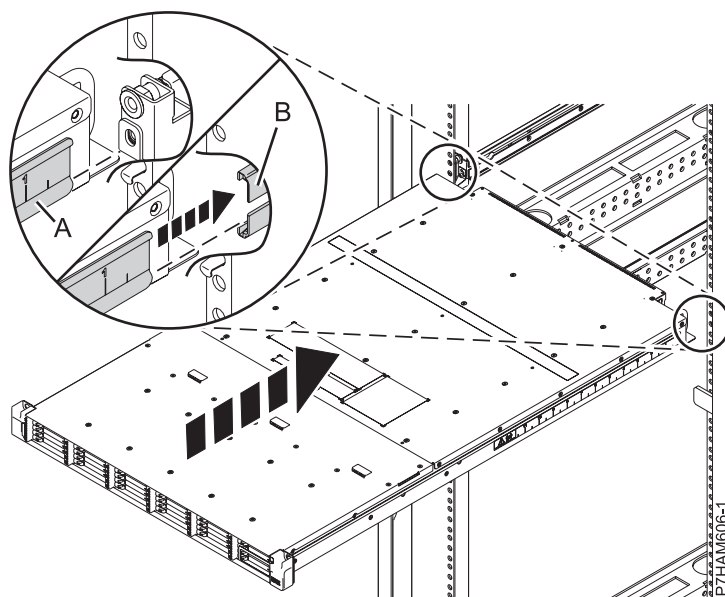

Figure 9. Fitting the enclosure into the rail sheath
- c. On one side of the enclosure, insert the chassis bracket guide (A) into the rail sheath (B) opening, as shown in Figure 9. Repeat this operation on the other side.